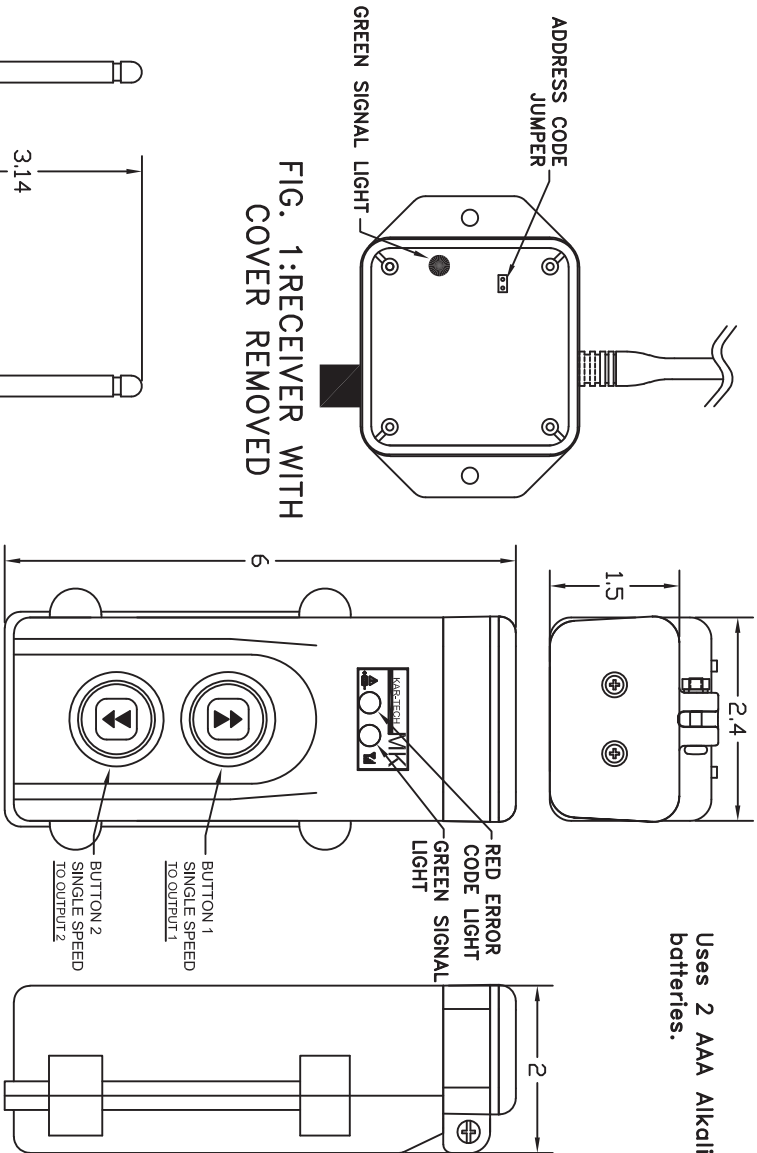

FIG. 1:RECEIVER WITH COVER REMOVED
5. Refer to Fig. 1 and place a jumper across the address code jumper inside the receiver. The green LED will go steady inside the receiver.